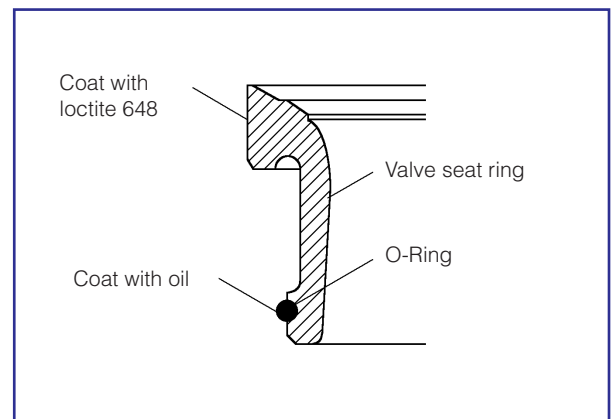

Fig 4
- 4) Place the O-ring on the valve seat ring and coat with oil/loctite as shown in fig 4, just before positioning it in the bore.